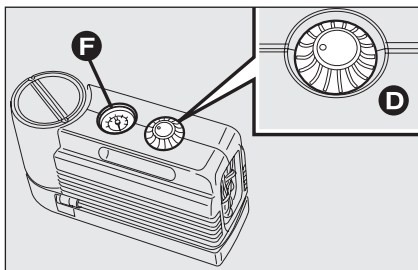
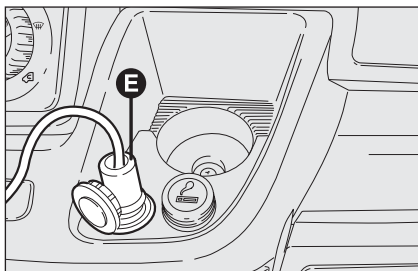

fig. 13
fig. 14
- ☐ make sure the compressor switch **D**-fig. 13 is set to **0** (off), start the engine and fit plug **E**-fig. 14 into the nearest current outlet and then turn on the compressor by setting switch **D**-fig. 13 to **I** (on). Inflate tyre at 4 bar pressure.
Check tyre pressure on gauge **F**-fig. 13 with compressor off to obtain precise reading;